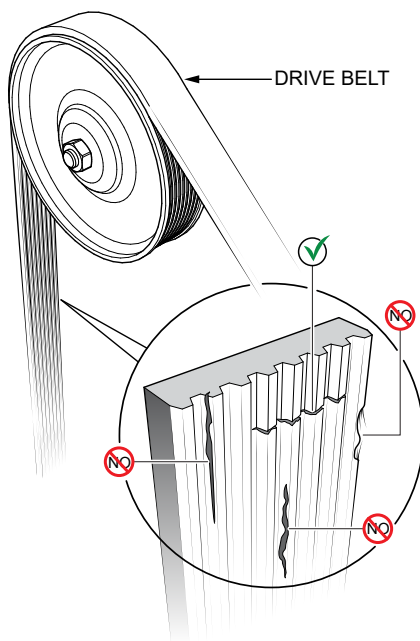

Figure 79. Drive Belt Inspection
1. Inspect the drive belt (Figure 79) for damage and wear. Horizontal cracks (across the belt) are acceptable. Vertical (direction of belt ribs) cracks that intersect with horizontal cracks are not acceptable.